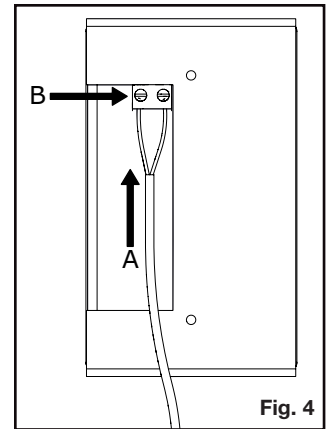

Fig. 4
3. Insert the 2 wires previously connected to the manual ON/OFF switch into the block terminals on the back of the wall timer. The wires must be inserted from the bottom of the block terminal, but the orientation of the wires is not critical. **(Fig. 4 A)**
4. Tighten the screw on the back of the terminal block with a small screw driver to secure the wires to the terminal block. **(Fig. 4 B)**